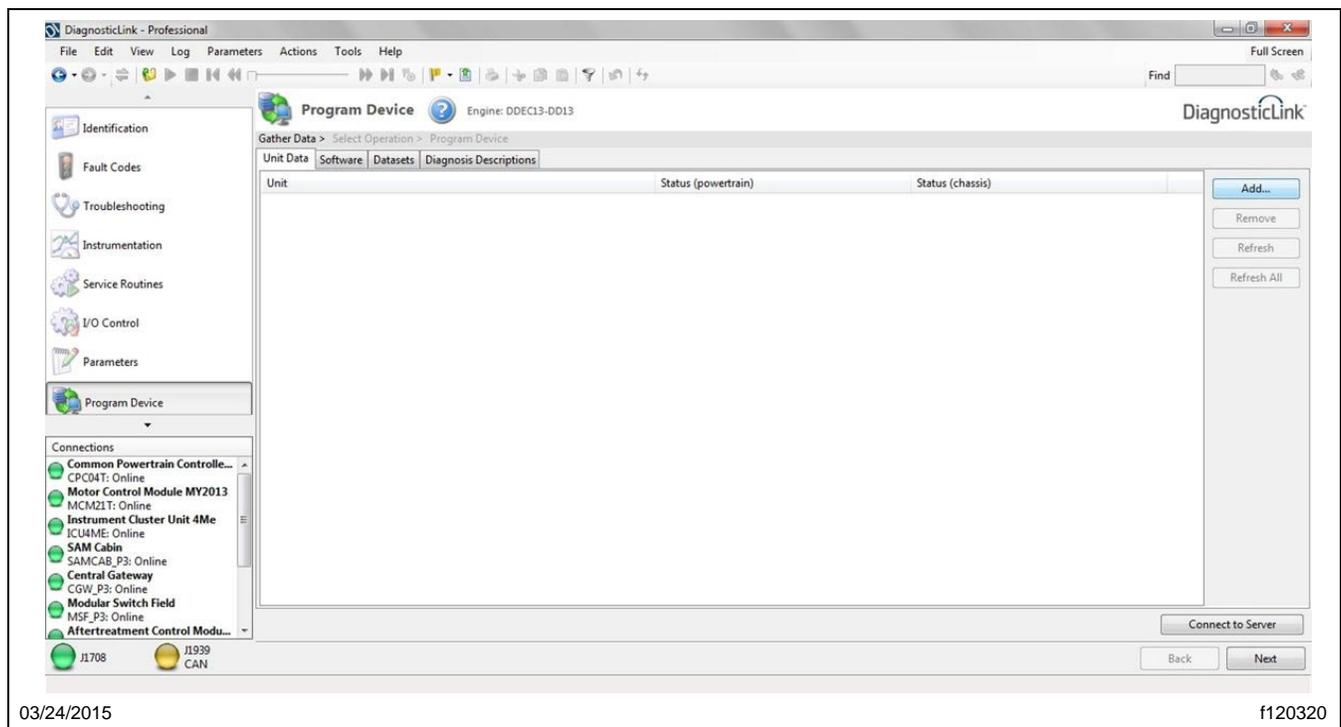

Fig. 1, Gather Data Page
2. In DiagnosticLink, click **Program Device** in the sidebar to display the "Gather Data" page in the program device window. See **Fig. 1**.